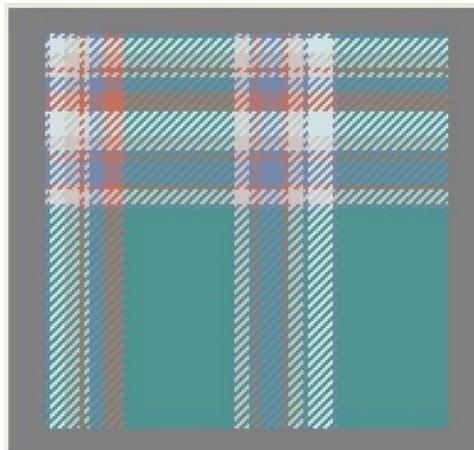

Figure 5-53A Preview of fabric cycle
1. Fabric cycle preview (Fig. 5-53A).